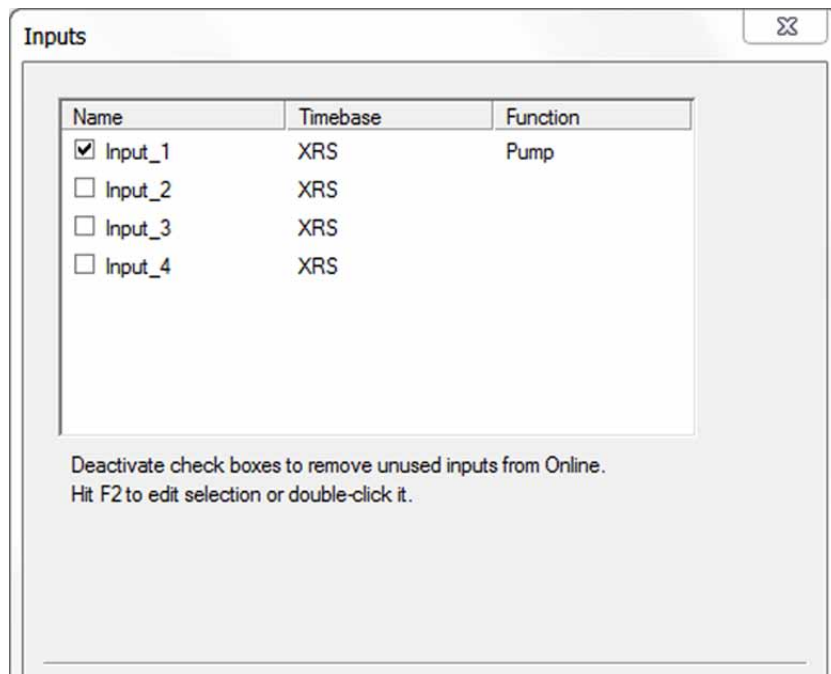

Fig. 36: Inputs page: Input_1 selected (example)
- Click the **Inputs** page and select **Input_X** (where X = the port, to which you connected the pump). If the pump is connected to Digital I/O port 1, for example, select **Input_1** (→ Fig. 36).